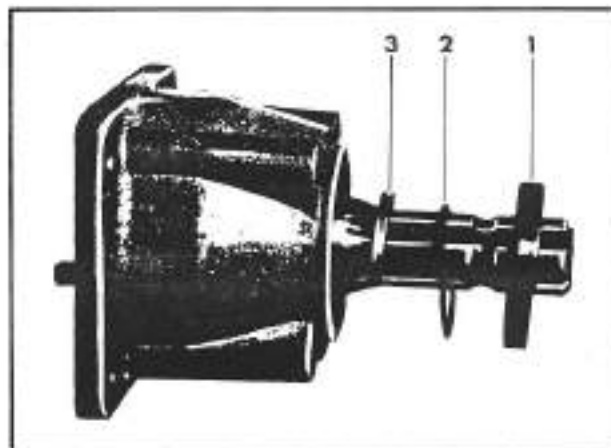

Fig. 3-48. Dismounting of the power take-off reduction gearbox (tractor Mod. 76)
- a. Take off the oil seal (1; fig. 3-48), the retaining ring (2; fig. 3-48) and the split retainer ring (3; fig. 3-48).